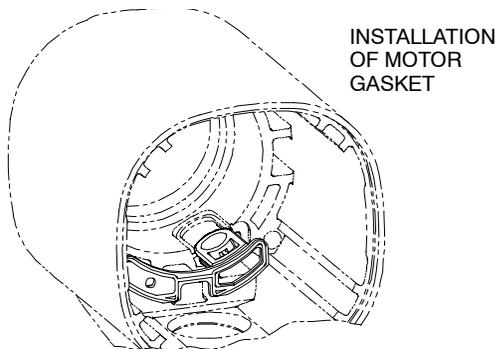

Figure 14 (Dwg. TPD1336)
1. Install the Motor Gasket in the Housing making sure that the grooves in the tab of the Motor Gasket fit around ridge in the Housing. Refer to Figure 14.
2. Install the Rear Rotor Bearing (3) into the rear of the Cylinder (1).
3. Install the Rotor in the Cylinder and secure with the Rear Rotor Bearing Retainer (6).
4. Install Vanes (4) in the slots in the Rotor (5).
5. Install the Front Rotor Bearing (3) into the Front End Plate (2). Install the Front End Plate on the Cylinder by pressing on the inner race of the front Rotor Bearing until the Bearing is seated on the Rotor Shaft.
6. Install the Power Management Dial Seal (5A) on the Power Management Dial (35) and install the Dial in the end of the Cylinder.